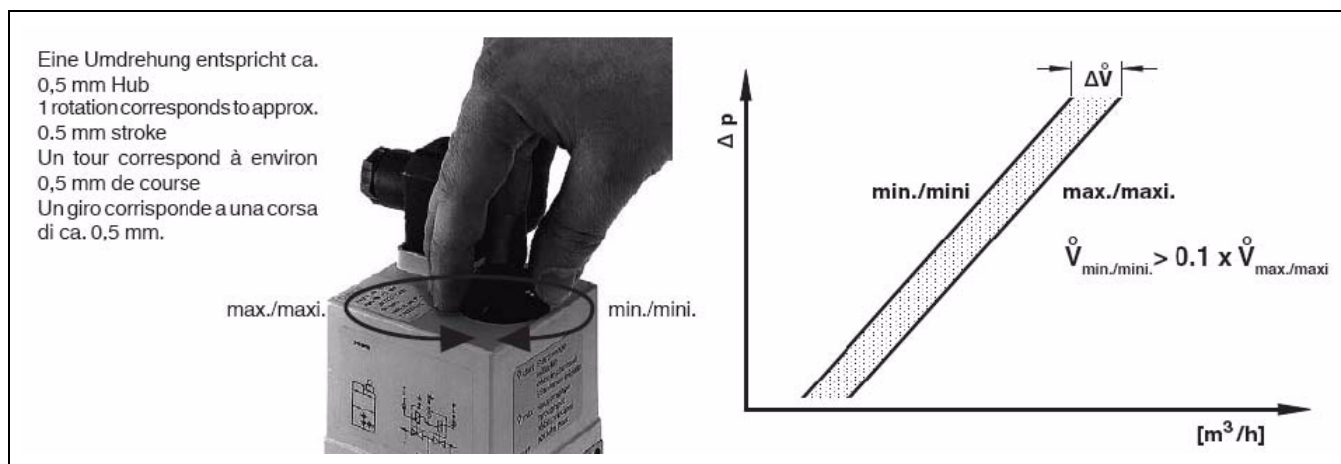

Figure 7A Pilot Valve Flow Adjustment
- f. Adjustment is on pilot solenoid valve. (See Figure 7A.)